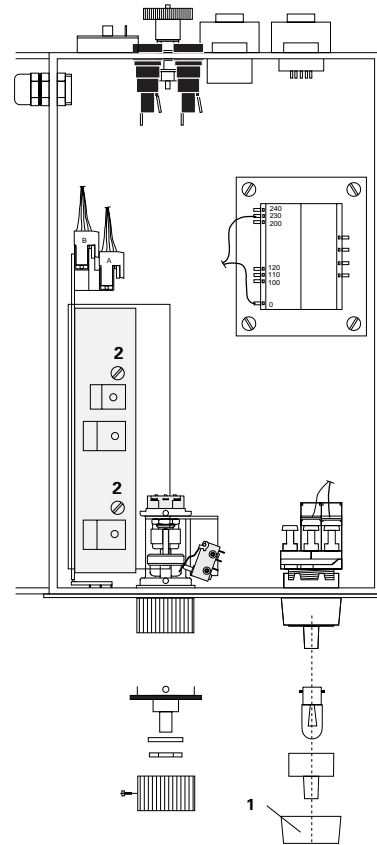

Figure 9
2. Unscrew the black retaining ring (**1** - Fig. 9) of the main switch on the front of the control module and remove the green switch grip.
6. Replace the green switch grip and screw on the retaining ring (**1** - Fig. 9). Make sure the white stripe on the switch grip is pointing upwards.